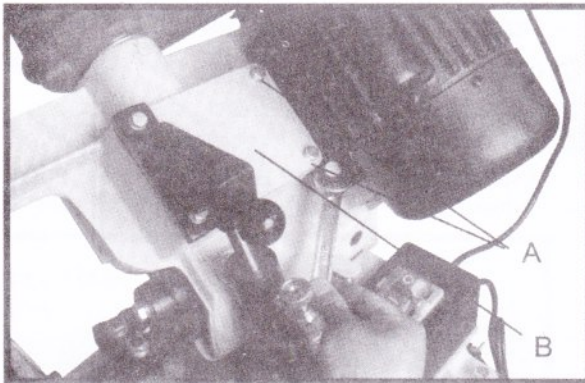

Fig. 20
3. Remove the four screws (A) Fig.20, and the gear box cover (B) and gasket.